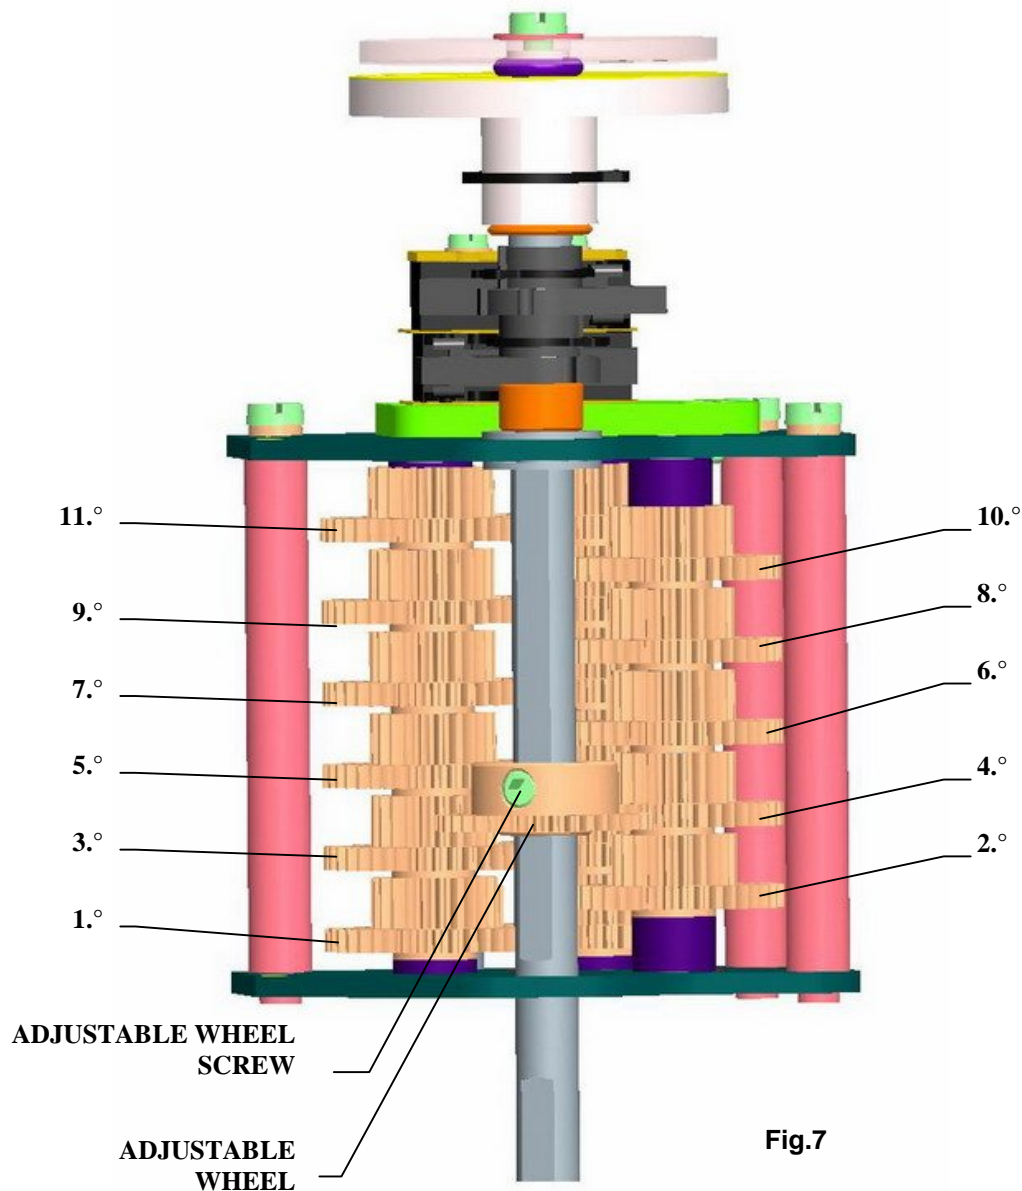

Fig.7
- Having the set screw of the gear unit wheel released, move the adjustable wheel to a required stage of the range (it means to a one corresponding accurately to the particular revolutions, or to the next higher one) according to table 3 and Fig.7. When moving the adjustable wheel, take care to achieve the proper meshing with the gear wheel of the subjected stage, and then tighten the set screw back.